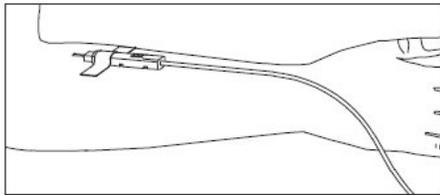

Figure 1
8. When good blood flow is established, slide the DONORCARE Needle Guard over the needle hub into the engaged position. Leave the front third of the needle hub exposed for access. Stabilize the front of the needle guard to arm with tape. (see Figure 1)